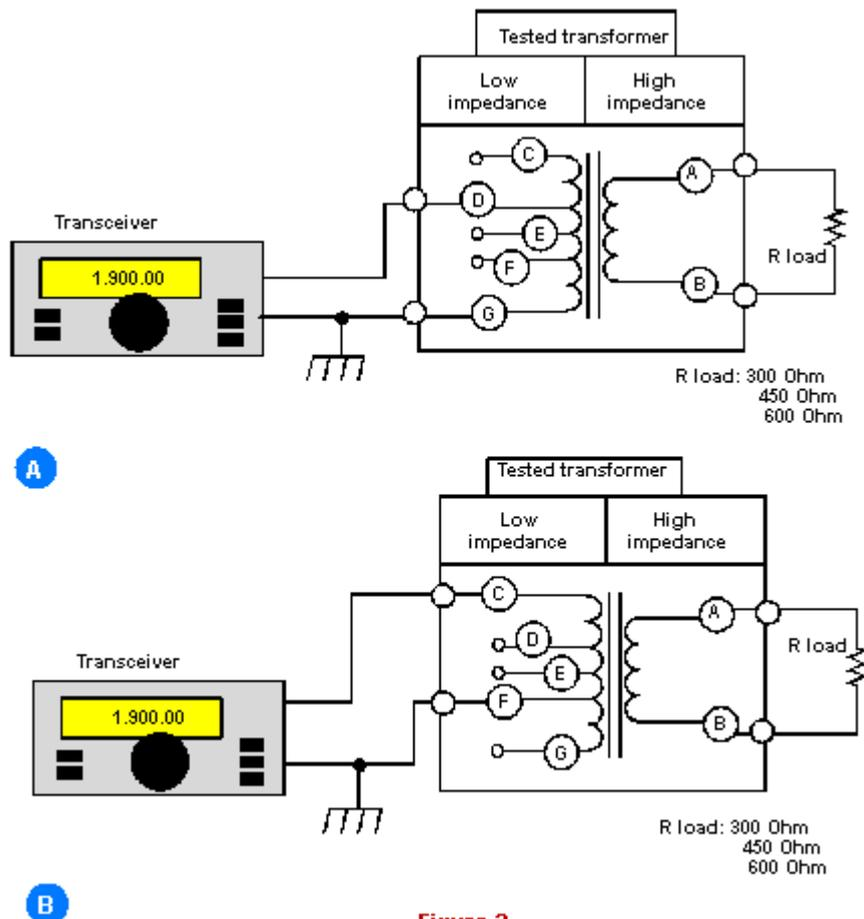
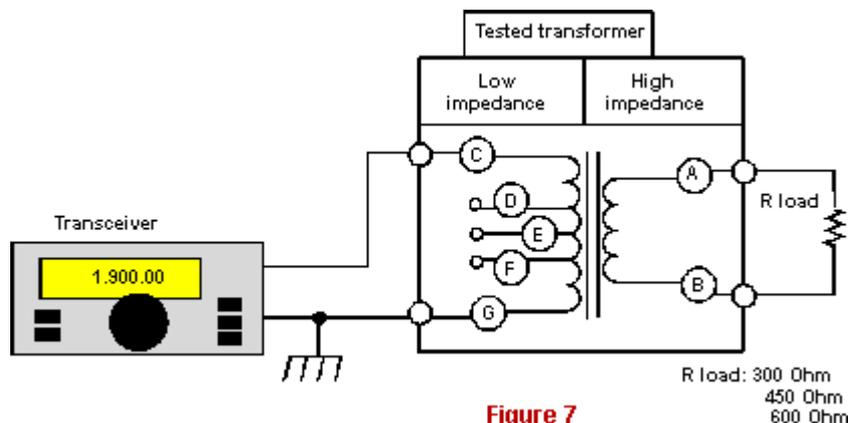
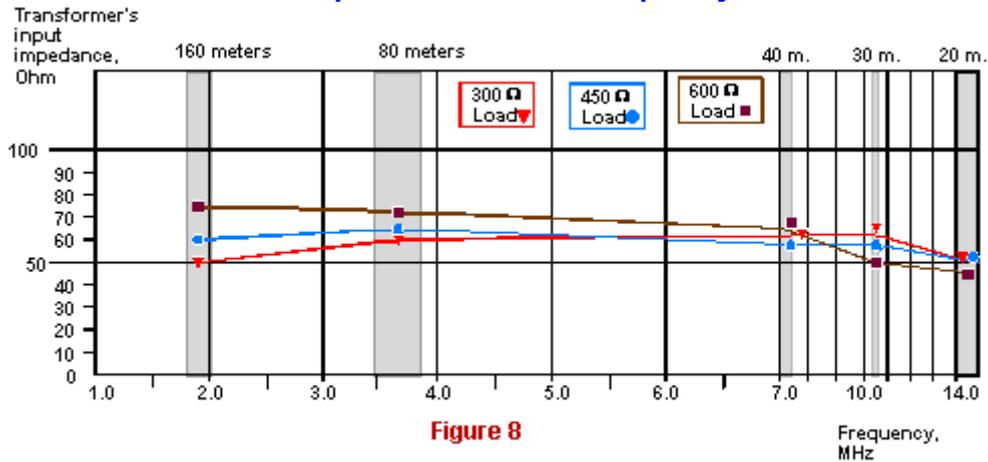
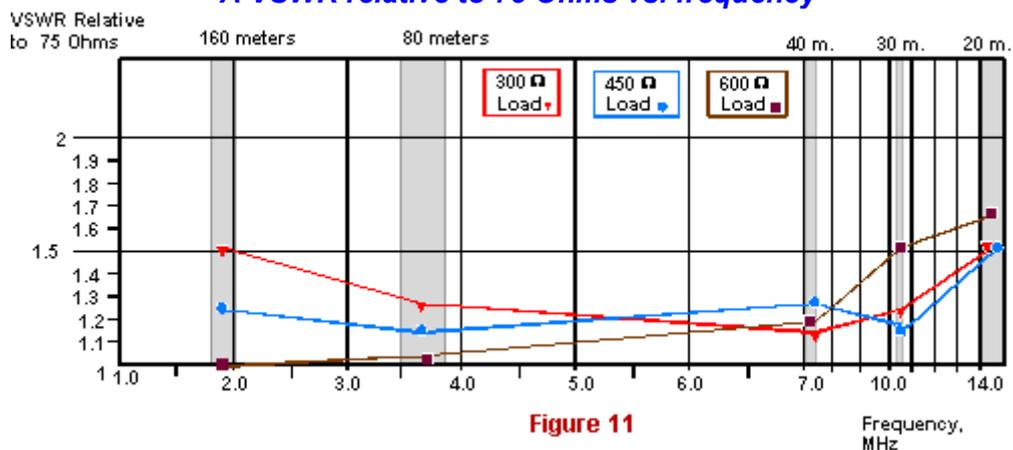

Figure 3
Figure 7
Figure 8
Figure 11
Let's begin with the best connection. AT- 33T transformer works quite well as an RF transformer while its low- voltage winding with summary voltage of 17 volts serves as an input winding. **Fig. 3** shows the connection. Mind, there are two almost equal connections, bottom (points **D- G, Fig. 3A**),
The most important parameter of any RF transformer is its efficiency. This RF transformer (Fig. 3) has a high efficiency only on ranges of 160 and 80 meters. The efficiency falls up to 60-35 percent (it depends on the
Conclusion for the connection shown in Fig. 3: The transformer can be used both in a transmission and reception mode on ranges of 160 and 80 meters with the transformer loaded to 450 or 600 Ohms. (An antenna Beverage or T2FD can be such a load.) The maximum of an RF power going to the transformer must be limited to 60 watts on the ranges. A 50-Ohm coaxial cable is to be preferred to use.
AT- 33T transformer works well as a RF transformer when its low- voltage winding with summary voltage of 24 volts serves as an input winding. Fig. 7 shows the connection.
- An input resistance vs. frequency (**Fig. 8**),
As it was mentioned above, the efficiency is the most important parameter of any RF transformer. The transformer has rather high efficiency and a small VSWR on a range of 160 meters while this one is loaded to 450 or 600 Ohms. As for a range of 80 meters the RF transformer shown in Fig. 7 has less efficiency and higher input resistance compared to the RF transformer shown in Fig. 3. The efficiency falls down to 50-37 percent (it depends on the transformer's load) on a range of 40 meters. As for a range of 30 meters the efficiency is 42 percent while the transformer is loaded to 600 Ohms. It means that more than half of an RF power going to the transformer heats its core but does not go to an
Fig. 8 shows that the RF transformer (Fig. 7) has a high input resistance. So it is wise to use the transformer together with a 75-Ohm coaxial cable because a VSWR relative to 75 Ohms is less than a VSWR relative to 50 Ohms. Tab. 7 shows a VSWR relative to 75 Ohms vs. frequency while the transformer is loaded to three different loads - 300, 450 or 600 Ohms. Using data from Tab. 7, I made diagrams for three transformer's loads. Fig. 11 shows the curves.
Conclusion for the connection shown in Fig. 7: The transformer can be used both in a transmission and reception mode on a range of 160 meters with the transformer loaded to 450 or 600 Ohms. (An antenna Beverage or T2FD can be such a load.) A 75-Ohm coaxial cable is to be preferred to use while the transformer loaded to 600 Ohms and a 50-Ohm coaxial cable is to be preferred to use with the transformer loaded to 450 Ohms. The maximum of a RF power going to the transformer must be limited to 60 watts on a range of 160 meters. www.antentop.bel.ru